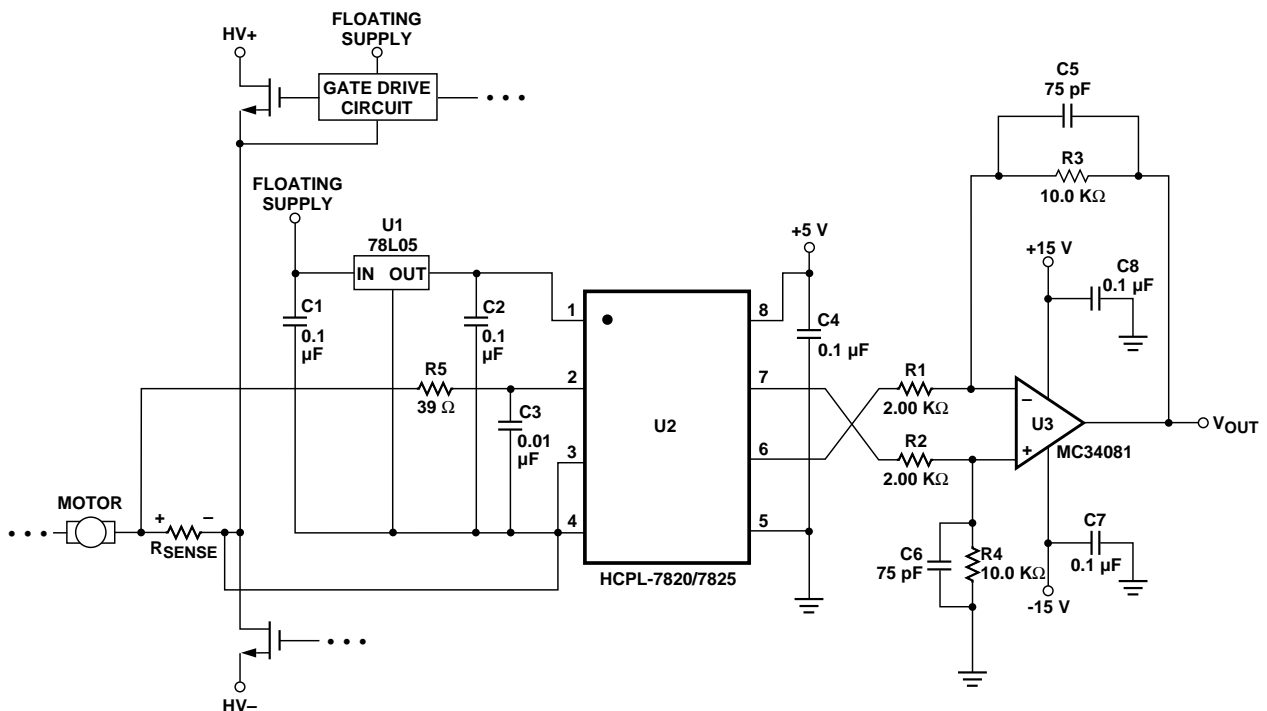

Figure 24. Recommended Application Circuit.
9. IMR (also known as CMR or Common Mode Rejection) specifies the minimum rate of rise of an isolation mode noise signal at which small output perturbations begin to appear. These output perturbations can occur with both the rising and falling edges of the isolation mode waveform and may be of either polarity. A CMR failure is defined as a perturbation exceeding 200 mV at the output of the recommended application circuit (Figure 24). See applications section for more information on CMR.
The recommended application circuit is shown in Figure 24. A floating power supply (which in many applications could be the same supply that is used to drive the high-side power transistor) is regulated to 5 V using a simple three-terminal voltage regulator (U1). The voltage from the current sensing resistor, or shunt ( $R_{SENSE}$ ), is applied to the input of
As shown in Figure 24, 0.1  $\mu\text{F}$  bypass capacitors (C2, C4) should be located as close as possible to the input and output power supply pins of the HCPL-7820/7825. The bypass capacitors are required because of the high-speed digital nature of the signals inside the isolation amplifier. A 0.01  $\mu\text{F}$  bypass capacitor (C3) is also recommended at the input pin(s) due to the switched-capacitor nature of the input circuit. The input bypass capacitor should be at least 1000 pF to maintain gain accuracy of the isolation amplifier.
Figure 24. Pin 2 ( $V_{IN+}$ ) is connected to the positive terminal of the shunt resistor, while pin 3 ( $V_{IN-}$ ) is shorted to pin 4 (GND1), with the power-supply return path functioning as the sense line to the negative terminal of the current shunt. This allows a single pair of wires or PC board traces to connect the isolation amplifier circuit to the shunt resistor. In some applications, however, supply currents flowing through the power-supply return path may cause offset or noise problems. In this case, better performance may be obtained by connecting pin 3 to the negative terminal of the shunt resistor separately from the power supply return path. When connected this way, both input pins should be bypassed. Whether two or three wires are used, it is
The recommended application circuit (Figure 24) includes a post-amplifier circuit that serves three functions: to reference the output signal to the desired level (usually ground), to amplify the signal to appropriate levels, and to help filter output noise. The particular op-amp used in the post-amp is not critical; however, it should have low enough offset and high enough bandwidth and slew rate so that it does not adversely affect circuit performance. The offset of the op-amp should be low relative to the output offset of the HCPL-7820/7825, or less than about 5 mV.
shown in Figure 24 form a differential amplifier with a gain of 5 and a cutoff frequency of approximately 200 kHz and were chosen as a compromise between low noise and fast response times. The overall recommended application circuit has a bandwidth of 130 kHz, a rise time of 2.6  $\mu$ s and delay to 90% of 4.2  $\mu$ s.